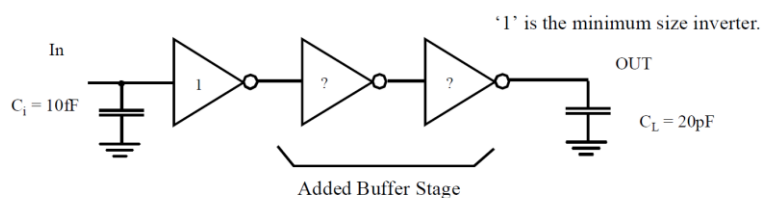

Figure 9.
- In order to drive a large capacitance ($C_L = 20$ pF) from a minimum size gate (with input capacitance $C_i = 10$ fF), you decide to introduce a two-staged buffer as shown in Figure 9. Assume that the propagation delay of a minimum size inverter is 70 ps. Also assume that the input capacitance of a gate is proportional to its size. Determine the sizing of the two additional buffer stages that will minimize the propagation delay. We assume $\gamma=1$. [4 pts]